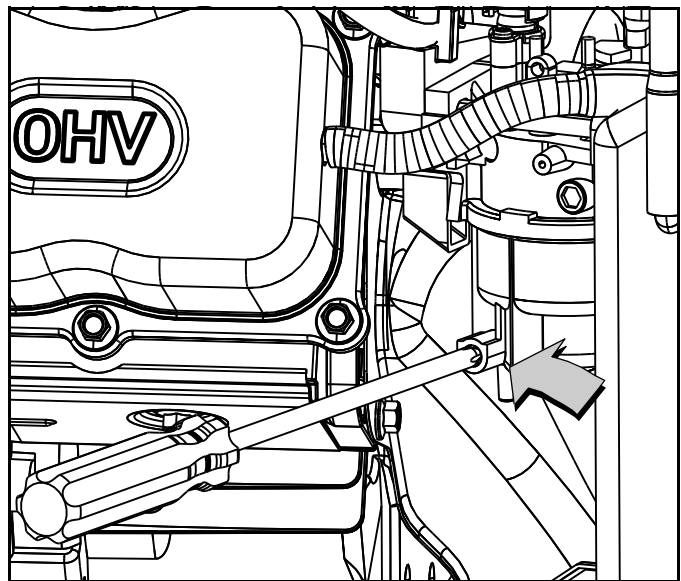

Figure 4-5. Drain Carburetor Float Bowl
7. See Figure 4-5. Remove Phillips screw from carburetor float bowl and completely drain gasoline into a suitable container. Install Phillips screw and tighten until snug.